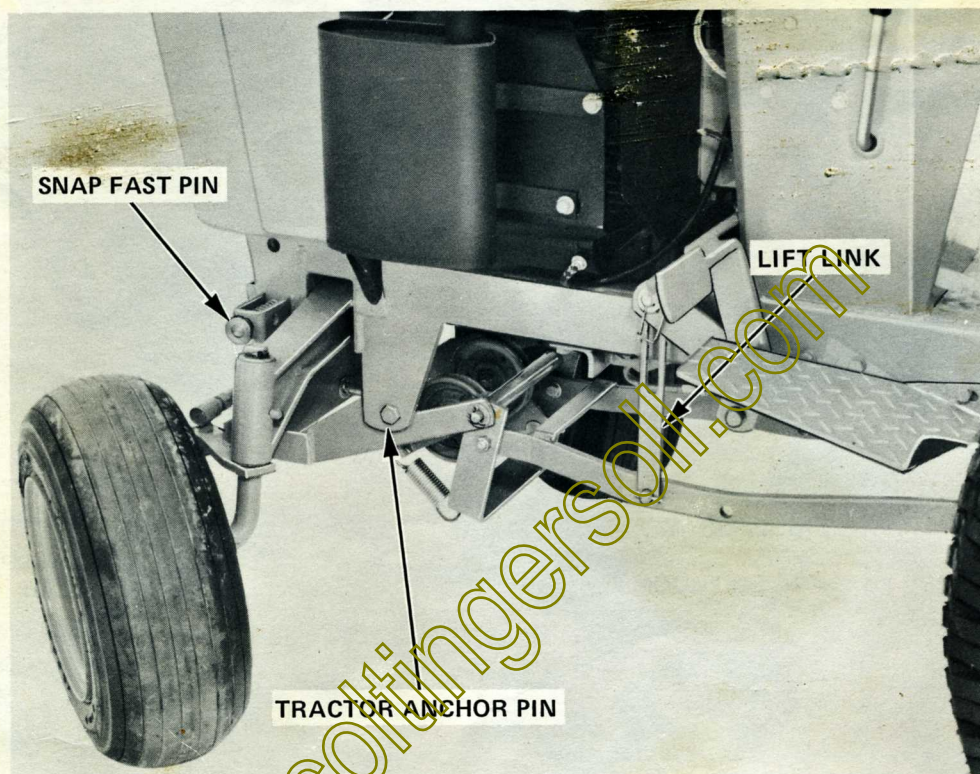

FIGURE 15 MOUNTING THE J-46 MOWER MOUNTING BRACKET
3. Position the mounting bracket under the front of the tractor and onto the anchor pins as shown in Figure 15. Raise the front of the bracket and release the snap fast pins to lock in place.
special right hand lift link should be installed on the outside of the right hand lift arm. The plain washer should be on the outside against the lift link slot.) Put a plain washer on each clevis pin and install in the front hole of the lift arm from the inside. Secure the links with the safety pins at the outside. Refer to Figure 15.